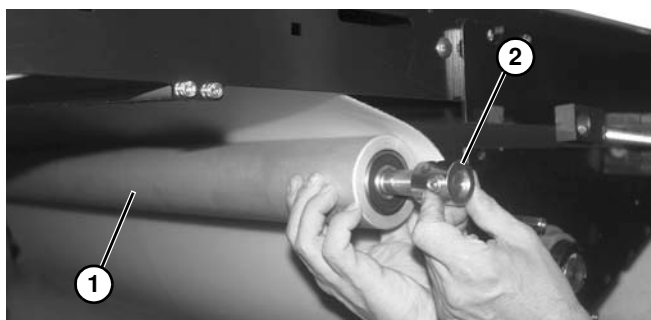

Figure 157
9. Slide out tensioning pulley (**Figure 157, item 1**) along with locking collar (**Figure 157, item 2**).